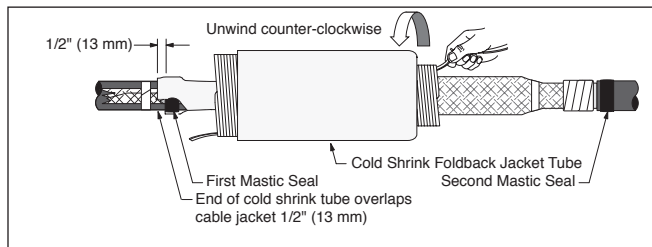

Figure 24
- 8.2 Install the cold shrink foldback jacket beginning with 1/2" (13 mm) overlap of the rubber mastic. Slowly pull and unwind the inner core counter-clockwise. The outer core should remain relatively stationary while unwinding the inner core. If the outer core begins to move towards the first mastic seal, gently pull the outer core and jacketing tube towards the second mastic seal and continue unwinding the inner core (*Figure 24*).